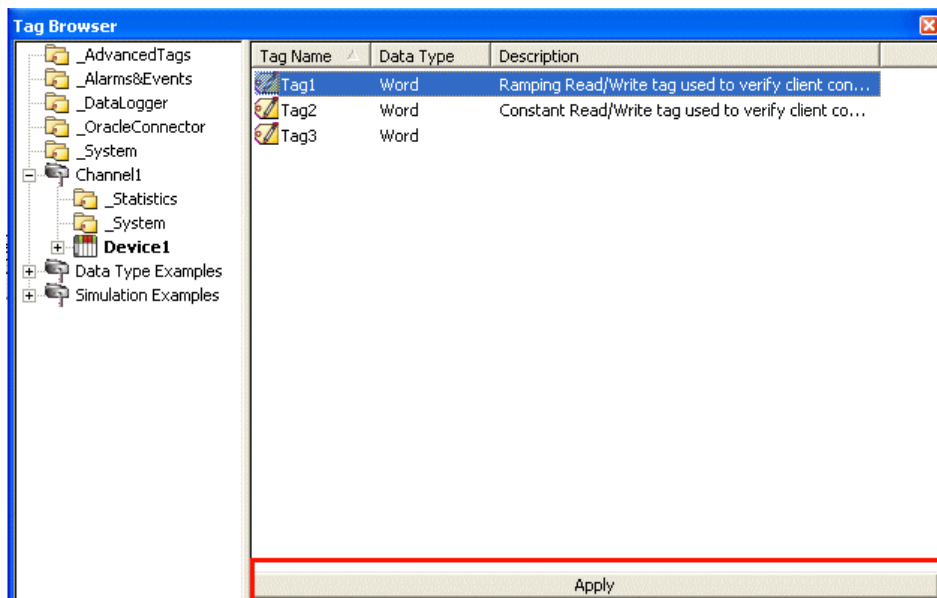

Figure 10: Select Tag From Tag Browser
7. You can either double click on the tag or click the Apply button at the bottom of the Tag Browser window, as shown in Figure 10, to select the tag as your Average tag.